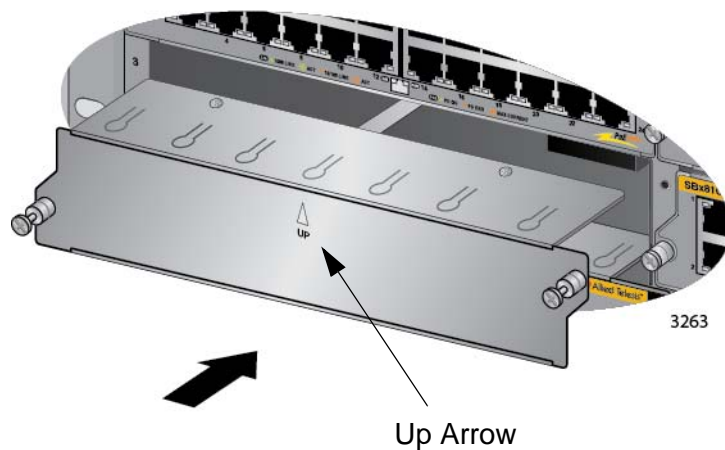

Figure 103. Installing a Blank Slot Cover
1. Position a blank slot cover over an unused slot, as shown in Figure 103. The up arrow on the panel must be pointing up.